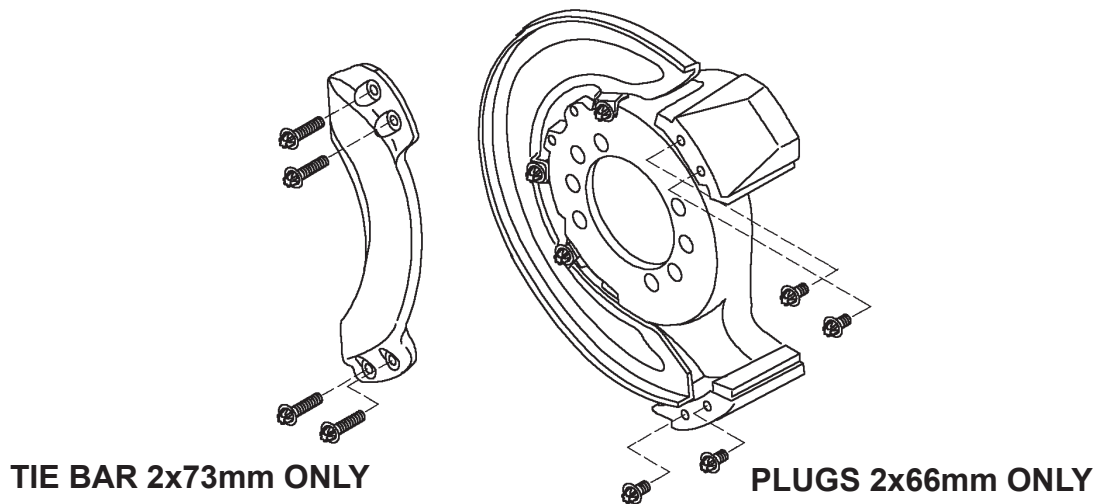

Figure 44. Installation of Tie Bar on 2x73mm or Anchor Plate plugs on 2x66 mm
9. On 2x66mm pin slide disc brakes, install four plug bolts into anchor plate face, as shown in *Figure 44*. Tighten to 16-27 lb.-ft. (22-37 N•m).
10. On 2x73mm pin slide disc brakes, install the anchor plate tie bar and four tie bar bolts to the anchor plate face, as shown in *Figure 44*. Torque bolts to 40-50 lb.-ft. (54-68 N•m).